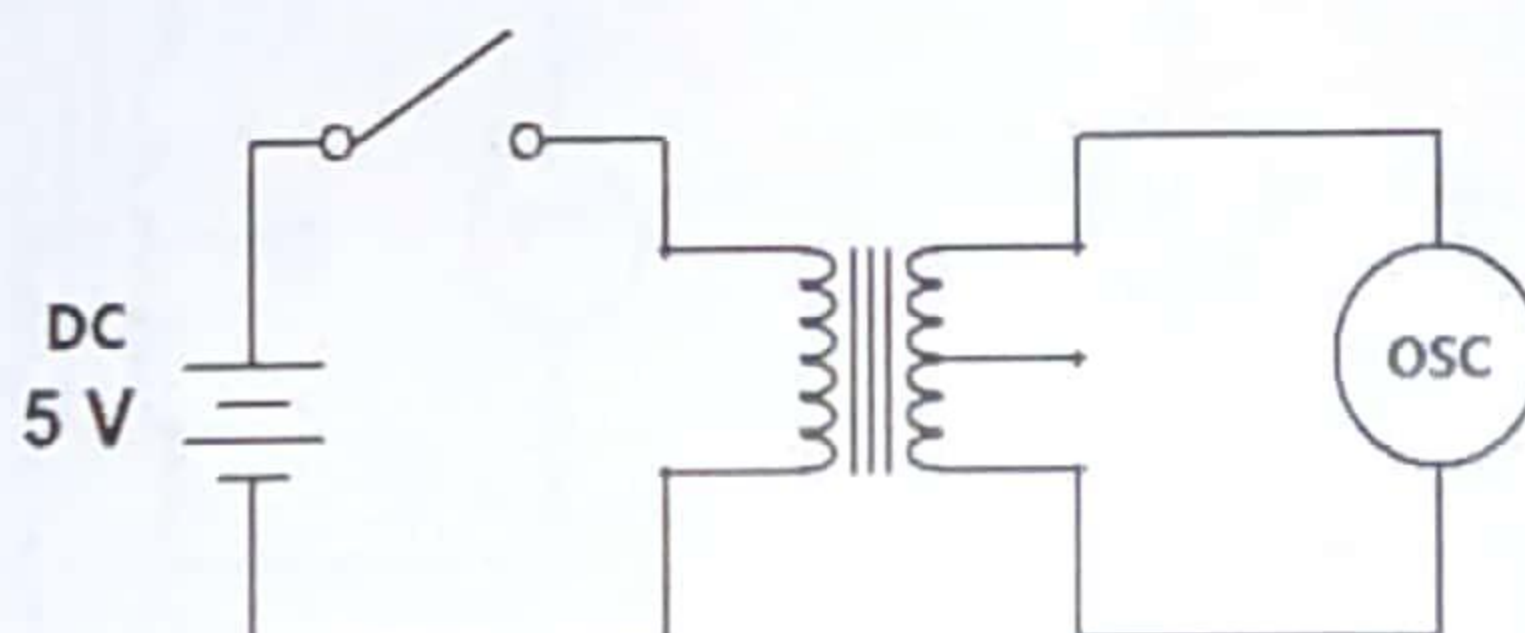

Figure 1
1. Complete the circuit diagram, as shown in Figure 1.